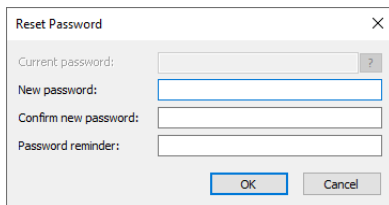

Figure B-8: Reset password dialog
4. Create the Administrator password (Figure B-8). Enter a new password and set a password reminder, if desired. The password must have at least 6 characters, with at least one letter, one digit, and one special character, such as the “%” symbol.